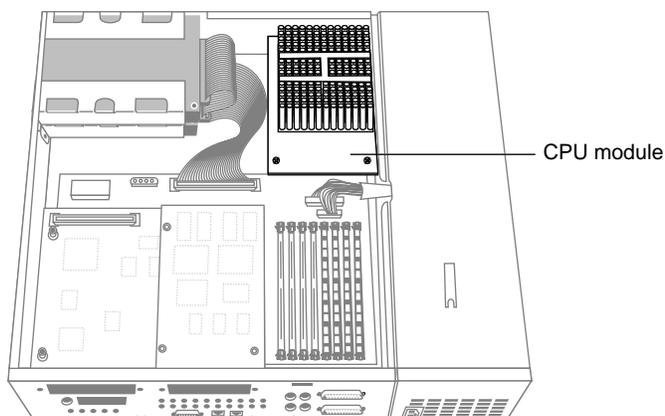

Figure 1-39 Locating the CPU Module
1. Locate the CPU module, as shown in Figure 1-39.